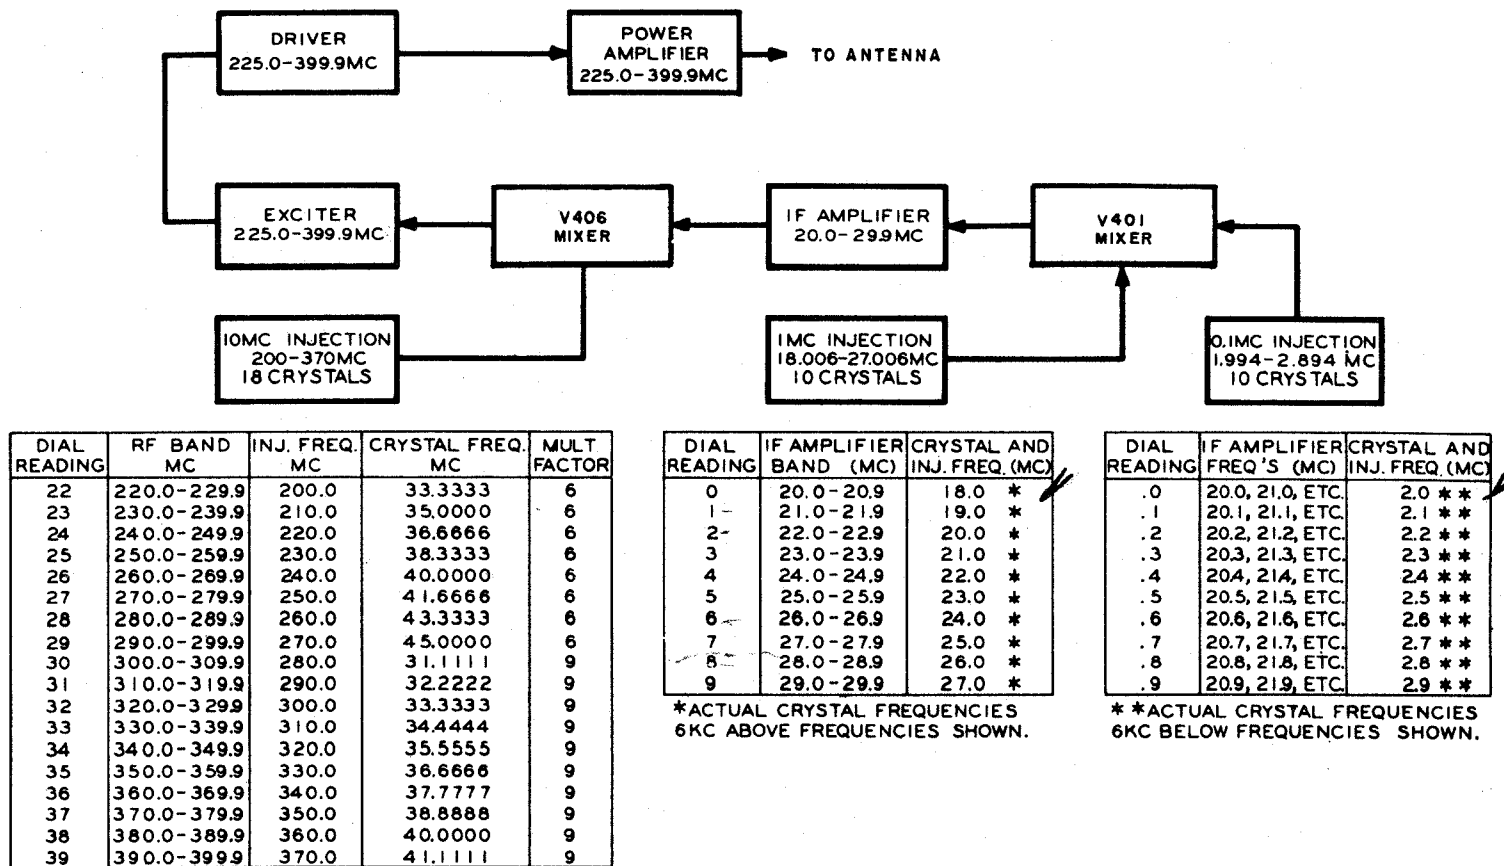

Figure 4-6. Radio Transmitter T-217A/GR, Frequency Block Diagram
Figure 4-6 is the frequency system block diagram. It shows for any combination of dial readings, which crystals are selected, the frequency multiplication factor, and how the frequencies are mixed to produce the desired output frequency.
in the frequency multiplier-amplifier. The main oscillator employs 18 crystals, any one of which is selected by the 10-mc autopositioner. The range of frequencies produced by the main oscillator are between 31.1111 and 45 mc, as shown by figure 4-6.
(8) SERVO AMPLIFIER.—The servo amplifier operates from an error signal on a servo bridge set up by the 10-mc and 1-mc autopositioners. The output of the servo amplifier operates the servo motor. The servo motor tunes the power amplifier and adjusts the setting of a potentiometer to restore equilibrium to the servo bridge at the time the power amplifier is tuned.
(9) FREQUENCY GENERATION SYSTEM.—The Transmitter operates on any one of 1750 frequencies spaced at 0.1-mc intervals. With the exception of the power amplifier stage, which is automatically tuned by a servo amplifier system, the transmitter is automatically tuned by the frequency selector unit. Three oscillators are employed; their various outputs, when properly multiplied and combined, furnish the 1750 frequencies. Figure 4-6 shows how the frequencies generated by the three oscillators are combined to give the frequency as set up by the "dial reading." The chart below shows the frequency range and tuning increments of each stage in the signal path.
As an example of frequency selection in the i-f and r-f sections, assume that an output frequency of 395.5 mc is desired. Assume this to be channel number 10. Turn the knurled disks opposite channel 10 in the preset panel to 395.5 as indicated on the dials. Turn the CHANNEL SELECTOR switch to channel 10. The frequency selector motor starts and produces a mechanical output which tunes the transmitter as follows: (Note in figure 4-6 that frequencies will be selected as follows in the various sections):